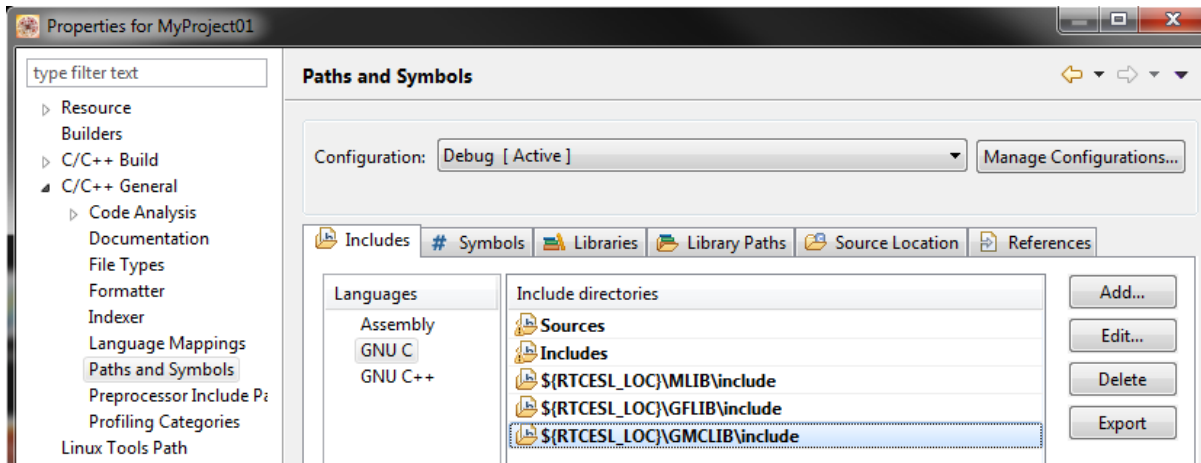

Figure 1-26. Compiler setting
19. In the right-hand dialog, select the Includes tab, and click GNU C in the Languages list. See Figure 1-26.
26. Click OK, and you will see the paths added in the list. See Figure 1-26. Click OK.